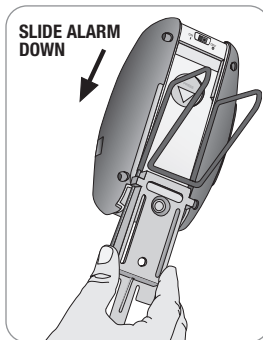

Fig. 17
1. Slide alarm onto bracket from top down until it is firmly in place (Fig. 17).
2. Slide alarm onto bracket from top down until it is firmly in place (Fig. 17 page 27).